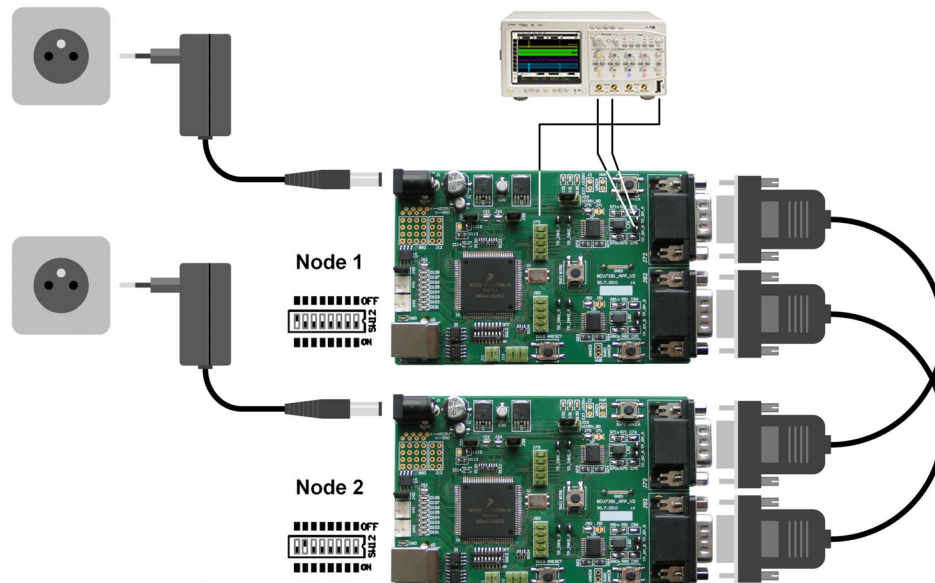

Figure 2. Getting started setup connection
3. Connect the boards according to Figure 2.